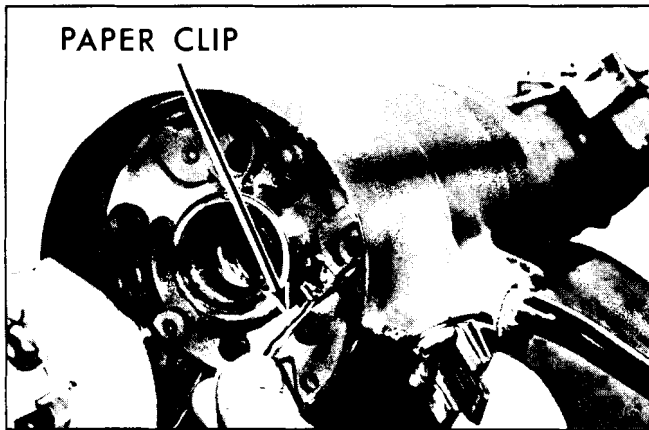

Fig. 9-29 Removing Buzzer Switch
3. Pull buzzer switch straight out of the housing using a paper clip or similar tool. A flat spring wedges the switch toward the lock cylinder (Fig. 9-29).